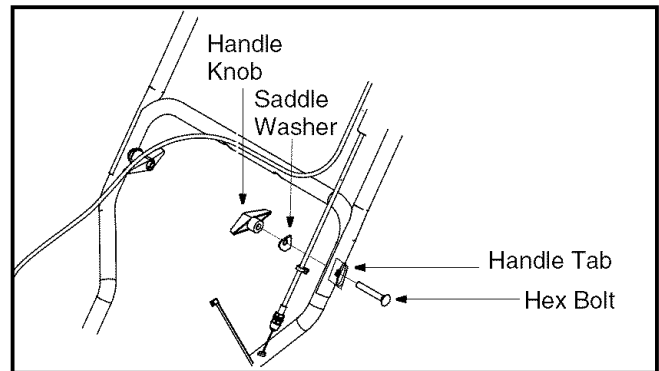

Figure 2
- Loosen the handle knob, saddle washer and handle tab on each side of the handle. See Figure 2.
- Tighten the handle knobs on each side of the handle. Refer to Figure 2.